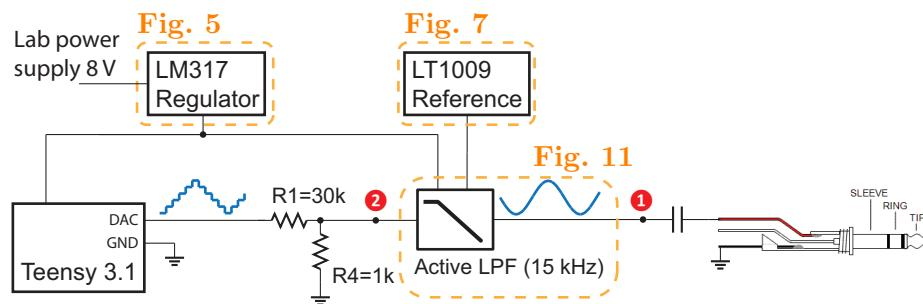

Figure 12: Acquiring signal through computer sound card.
1. Set up the system according to Fig. 12.
7. Now use the audio cable to acquire the signal after the gain stage (position 2 in Fig. 12). Record the data and compare it with that from the last step. Explain the difference, if there is any.